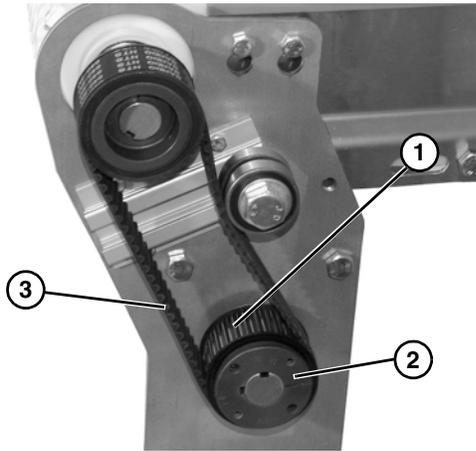

Figure 31
3. Remove pulley (Figure 31, item 1), taper hub assembly (Figure 31, item 2), and timing belt (Figure 31, item 3).